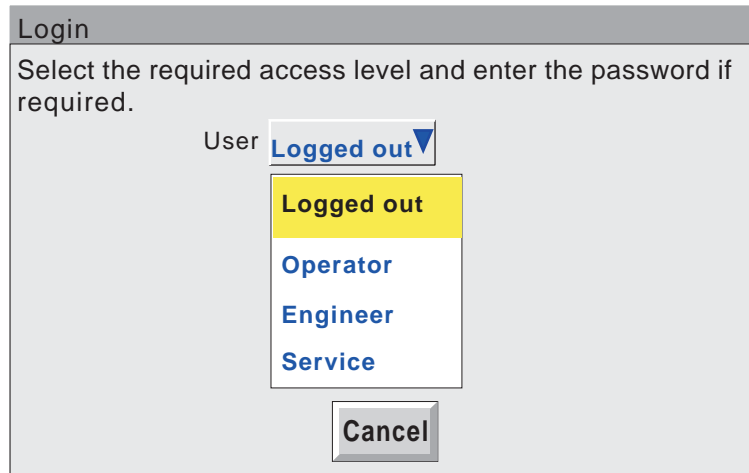

Figure 3.3.1a Access to configuration
- 1 Once the recorder has initialised, touch the Root key, followed by 'Login'. Touching the 'Logged out' field in the resulting display, calls the access level picklist as shown in figure 3.3.1a.